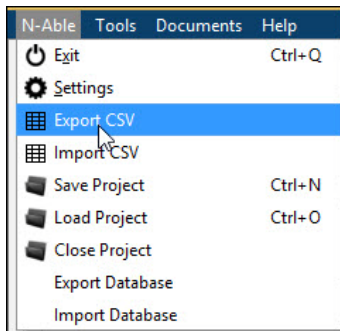

FIG. 7 EXPORT CSV FILE
2. From N-Able's main menu bar, select **N-Able > Export CSV**. See Figure 7.